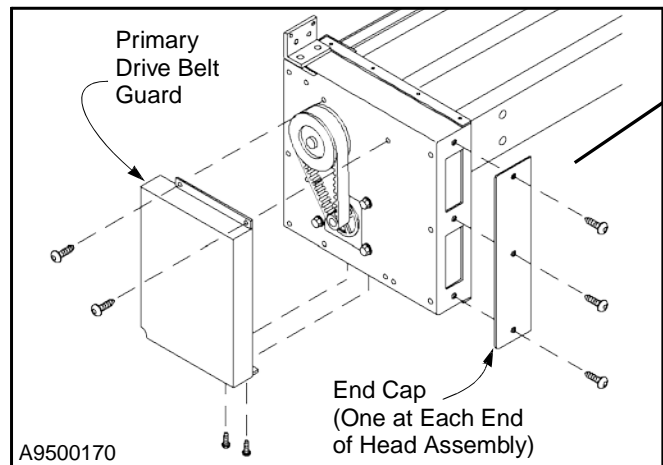

Figure 59
4. On the side that needs to be lowered, place your hand on the smooth side of the secondary drive belt and begin moving your hand up the belt towards the head assembly. When you're near the top, a wave will form and the belt will slip or jump on the sprocket. Perform this process until the panels have reached level. **DO NOT** place your hand between the belt and the sprocket while performing this task. (See Figure 59.)
2. Mount the left and right end caps to the head assembly. Each end cap is held in place with three, 20-mm-long, Torx head screws. (See Figure 59.)